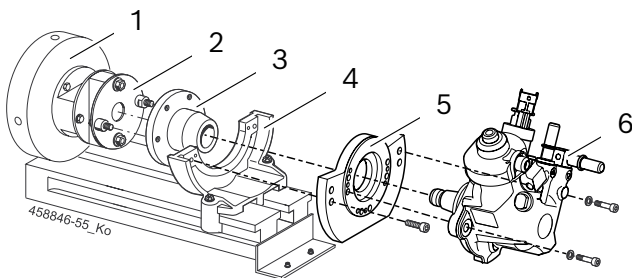

Fig. 1: Clamp the CP4
1. Affix drive coupling 1 686 401 024 (Fig. 1, item 2) to the flywheel (Fig. 1, item 1) of the EPS 708. The tightening torque of the fixing screws is 95 ± 2 Nm.
2. Affix clamping flange (Fig. 1, item 5) to the CP4 (Fig. 1, item 6).
3. Position and affix CP4 with clamping flange in the clamping bracket (Fig. 1, item 4).
4. Affix drive flange (Fig. 1, item 3) on the drive shaft of the CP4. Tightening torque of the clamping nut: $80 + 10$ Nm.